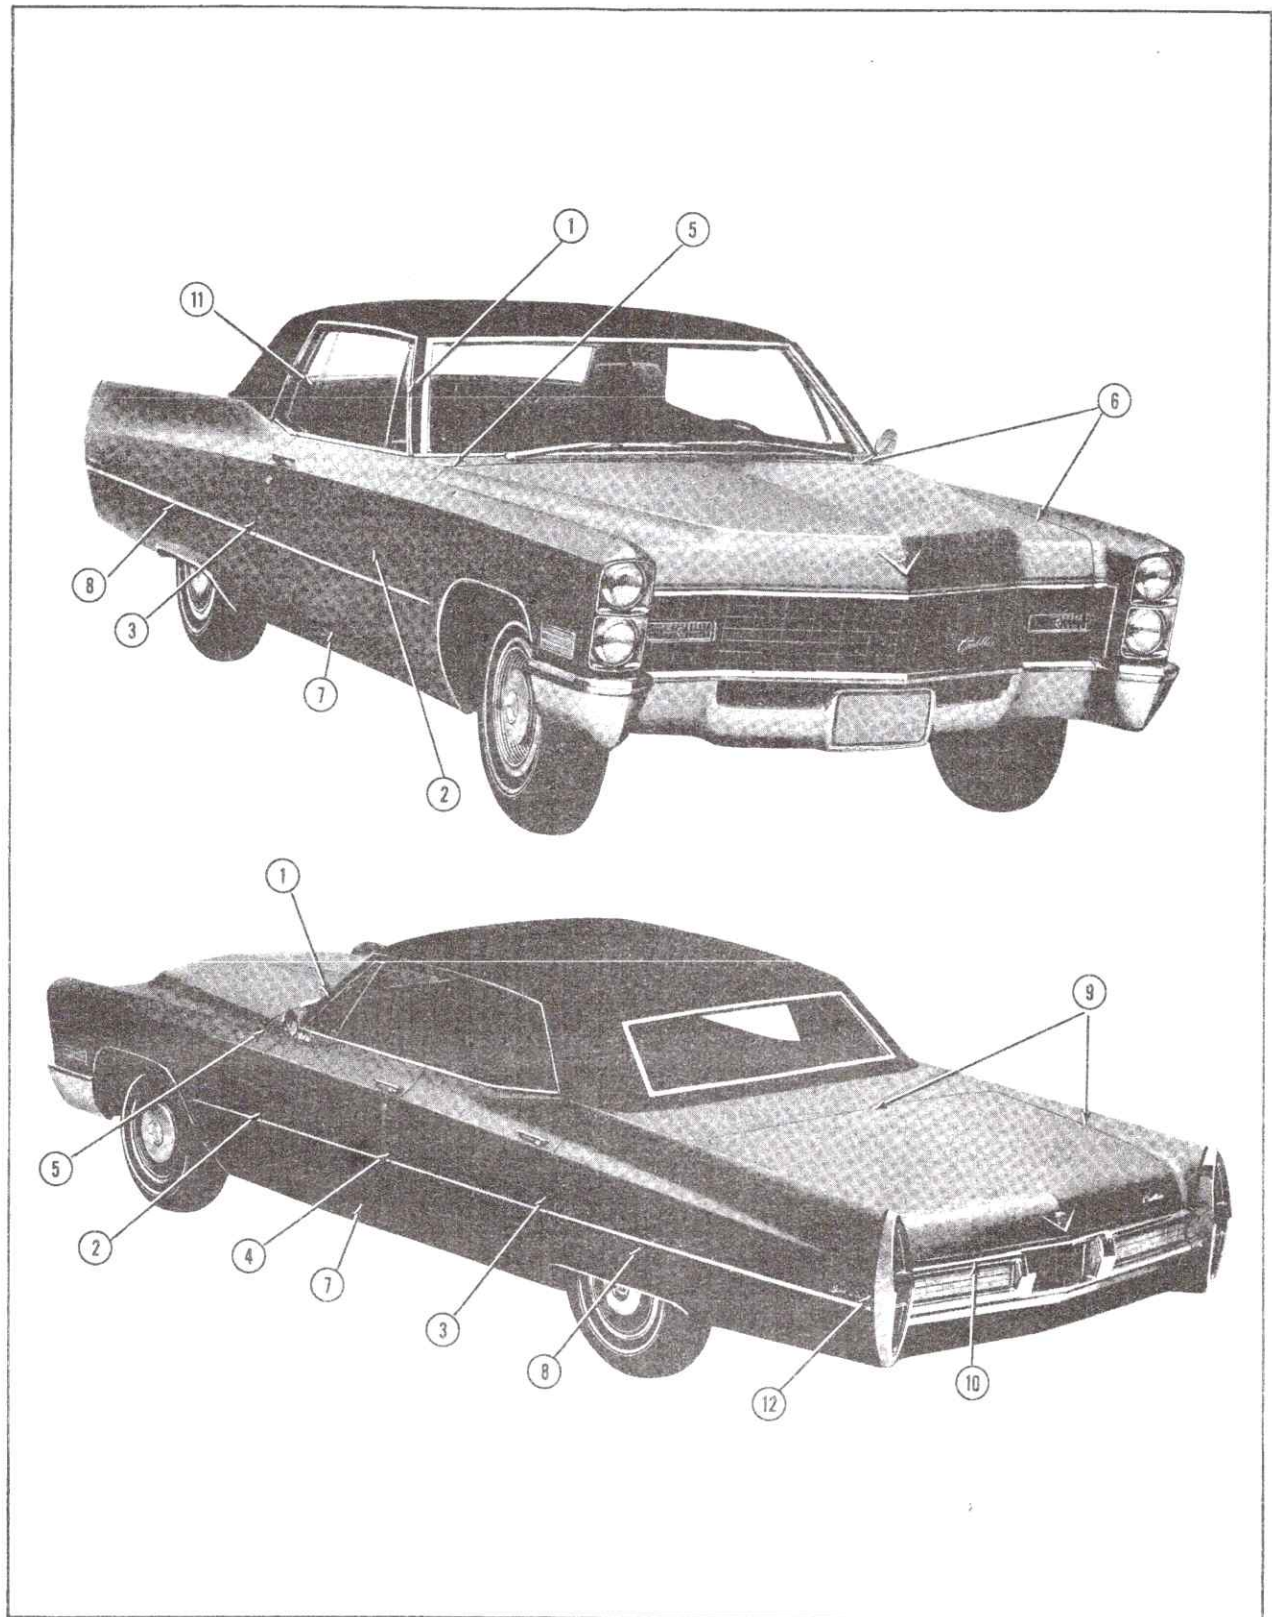

Fig. 11-6 Sheet Metal Tolerances
NOTE: In Steps 2 and 3 install shims required to obtain tolerances as shown on page 11-7, referring to Fig. 11-6.
10. Obtain proper alignment of fender as shown in Fig. 11-6 and tighten all screws installed in steps 2 through 9 to proper torque as shown in chart on page 11-7.
NOTE: Referring to Fig. 11-6, the clearance at points #2 and #5 should also be adjusted at this time. Refer to chart below for tolerances.
The adjustment procedures for clearances 1 thru 12 in Fig. 11-6 (except #2 and #5) are found in the 1967 Fisher Body Service Manual. These clearances should be adjusted to the figures shown in the following table.